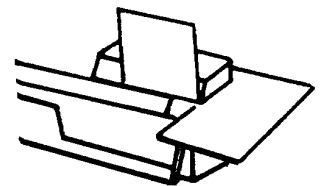

FIGURE 4
2. Position the portion of the workpiece to be bent under a keeper at the end of the magnetic base. Allow portion to be left flat to extend beyond the end. (Figure 4)